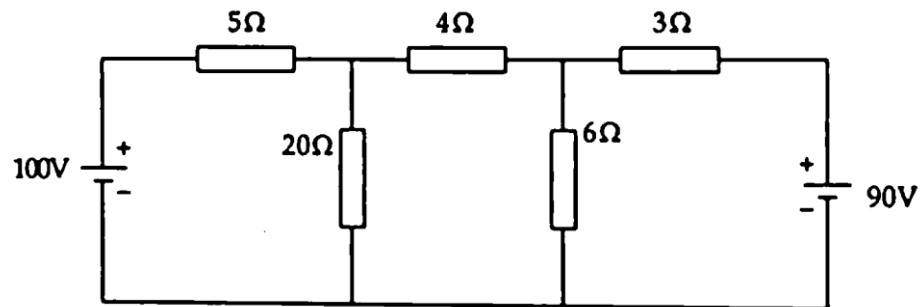

Figure 1.
1. a) State Superposition Theorem and determine the current flowing through the 4Ω resistance and potential difference across 4Ω resistance using superposition theorem for the circuit shown in Figure 1. 10